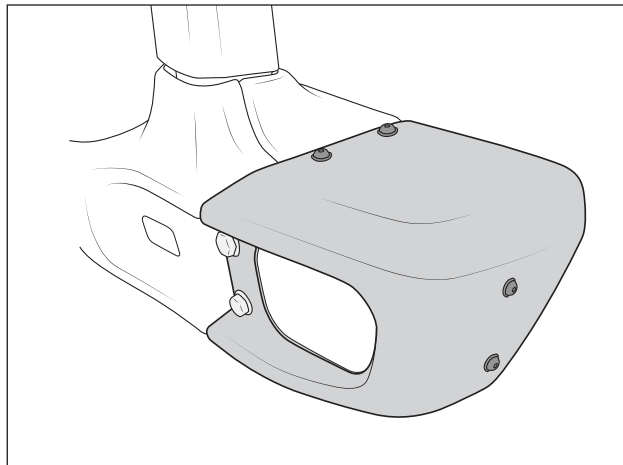

Figure 24
3. Install black M8x25mm button head bolts with washers into each of the weld nuts in the two holes along the top of the corner stamping and two holes through side of corner. A slipper bar may be helpful to align all the holes during bolt installation (fig. 24).